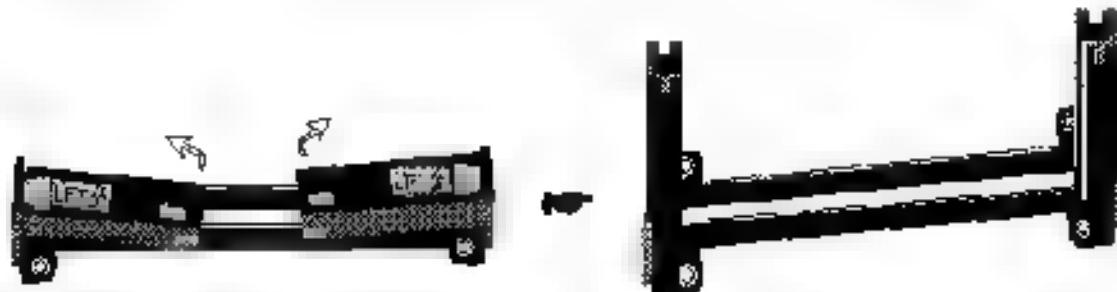

Figure 8
- ❶ First please refer to figure 8 below and follow the direction to lift up the fixed foldable pentium® II Retention Mechanism. This pre installed device is designed for you to install Pentium® II CPU more easier and to avoid any damage on the board due to overtightening the four screws.
- ❷ One thing must be kept in your mind that please make sure to lift upright the foldable parts of the Retention module to fit and install CPU properly.
Figure 9 shows the layout of Slot 1 and the holes for mounting the Heatsink base plate (figure 8)